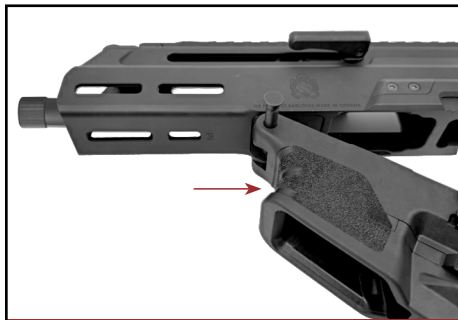

Figure 26-2
- Push disassembly front pin from right to left and pull it out from the left side of the lower receiver (fig. 26-2).